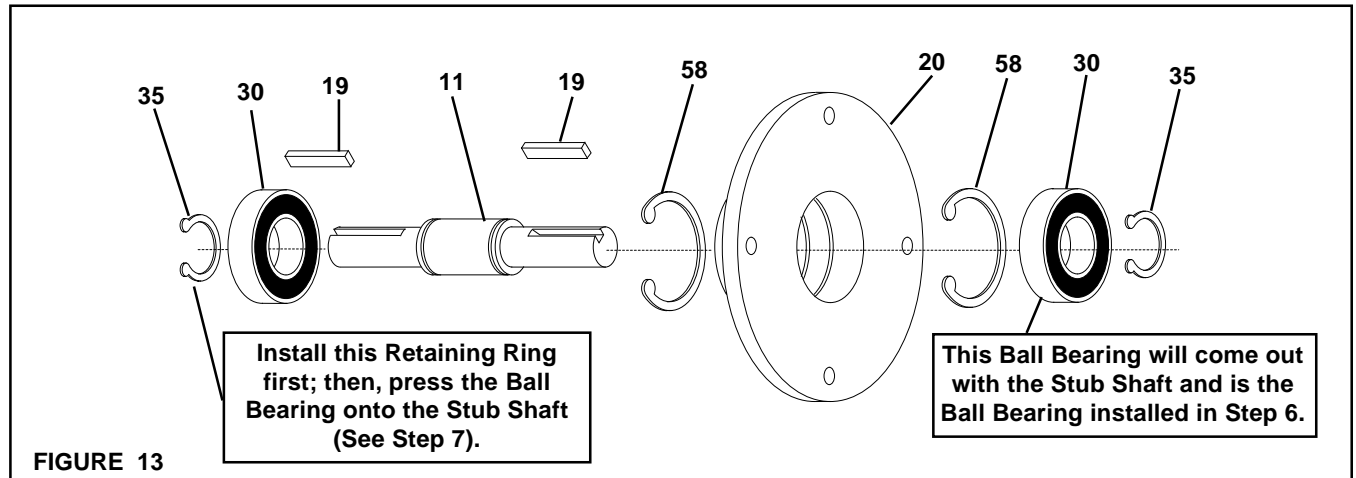

FIGURE 13
1. Remove both Retaining Rings (Item 35) (See Figure 13).
2. With face of Bearing Flange (the side without ribs) (Item 20) facing down and fully supported, press Stub Shaft (Item 11) down and out of the Bearing Flange (See Figure 13).
3. Remove the first old Ball Bearing (Item 30) from Stub Shaft (Item 11) (See Figure 13).
Do not remove the two Retaining Rings (Item 58) from the Bearing Flange (Item 20) (See Figure 13).
4. Press the second old Ball Bearing (Item 30) out of the Bearing Flange (Item 20) (See Figure 13).
5. Clean the bore of the Bearing Flange (Item 20) with fresh solvent, making sure all old Loctite® residue is removed (See Figure 13).
6. Apply an adequate amount of Loctite® 680 to evenly coat the outer race of the first new Ball Bearing (Item 30); then, press this Ball Bearing into the Bearing Flange (Item 20) until it is seated against the Retaining Ring (Item 58) (See Figure 13).
7. Reinstall the first Retaining Ring (Item 35) on Stub Shaft (Item 11) (See Figure 13).
8. Fully support the inner bearing race of the second new Ball Bearing (Item 30) and press it onto the Stub Shaft (Item 11) until it is seated against the Retaining Ring (Item 35) (See Figure 13).
10. Supporting the inner race of the Ball Bearing located in the Bearing Flange (Item 20), press the second new Ball Bearing (Item 30) and Stub Shaft (Item 11) into the Bearing Flange and Ball Bearing until the second new Ball Bearing is seated against the Retaining Ring (Item 58) (See Figure 13).
11. Reinstall the second Retaining Ring (Item 35) (See Figure 13).